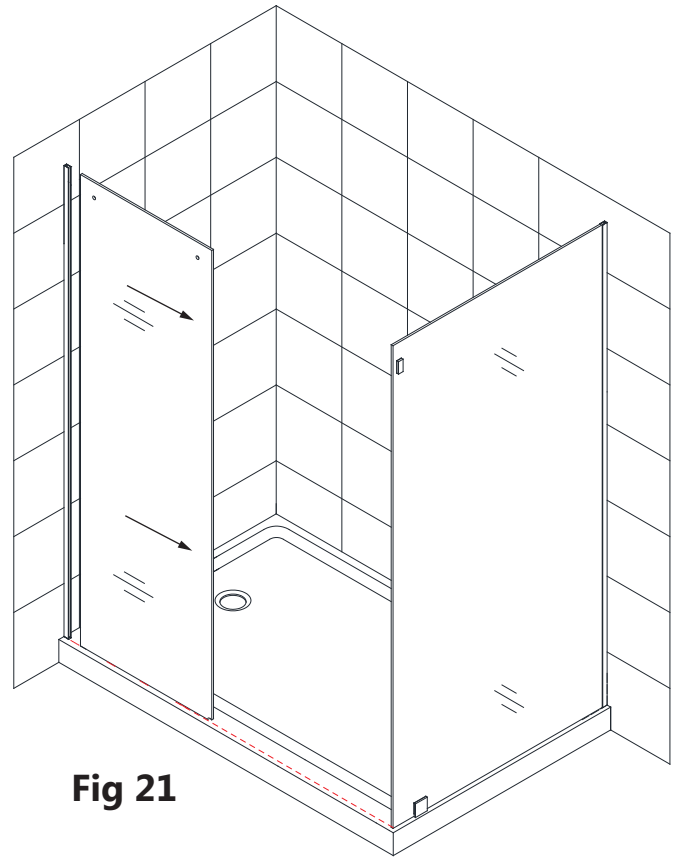

Fig 21
21. After marking the position of the **Guide Block (#12)**, remove it along with the **Stationary Glass (#02)** from the **U-Channel (#01)** and carefully set it aside. (Fig 21)